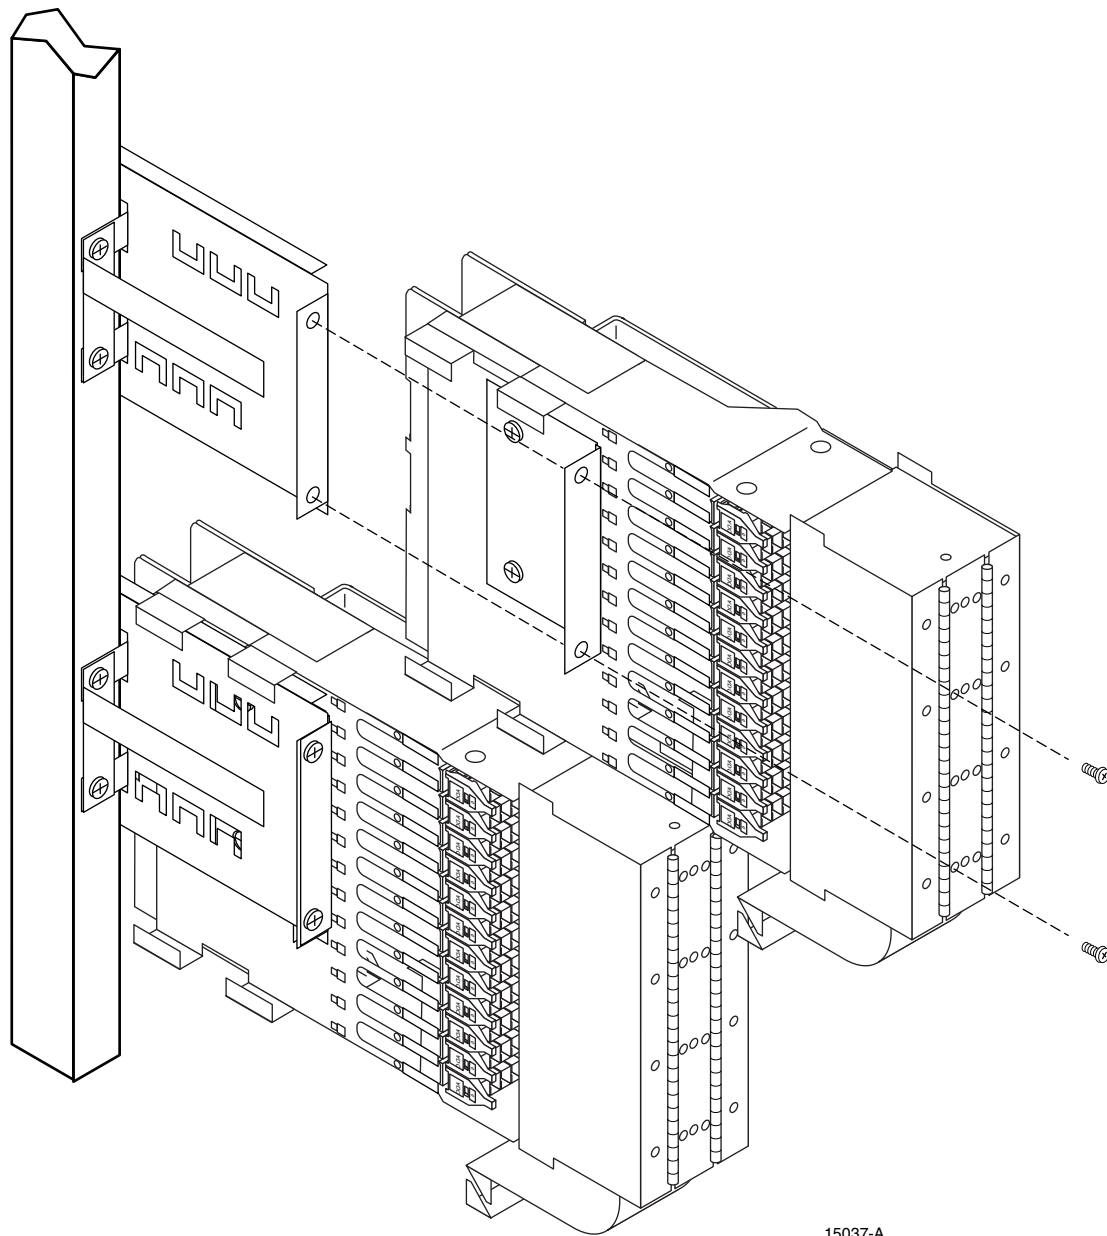

Figure 19. FTB Installation on Rack
8. Slide the FTB onto the appropriate mounting bracket at the front of the rack as shown in Figure 19.